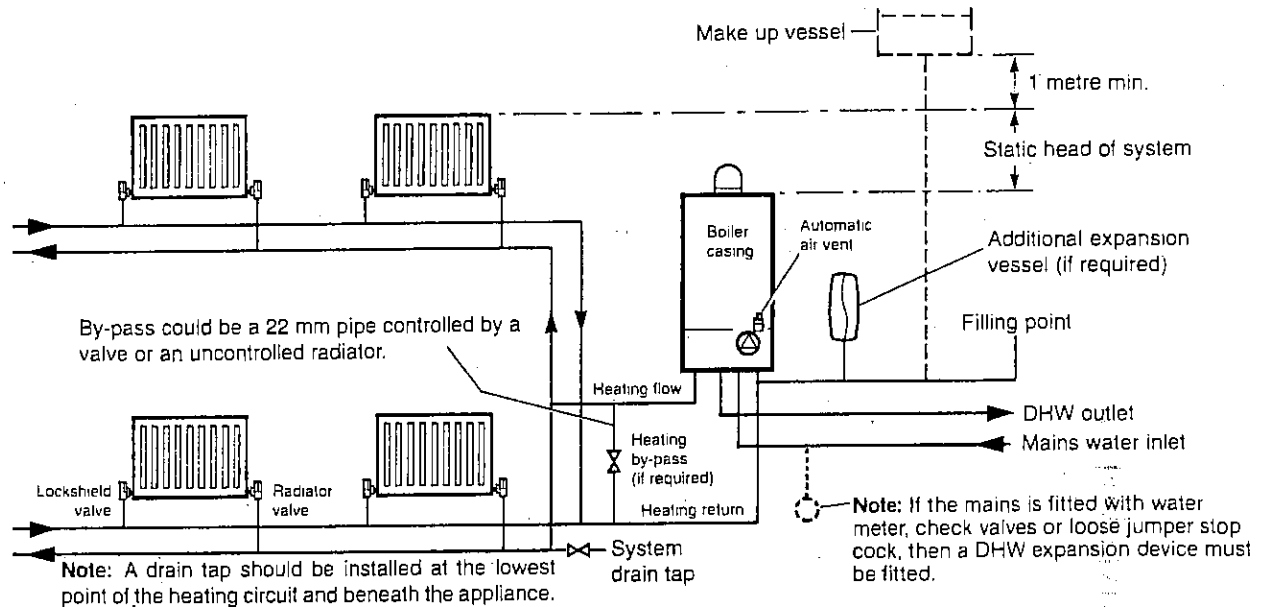
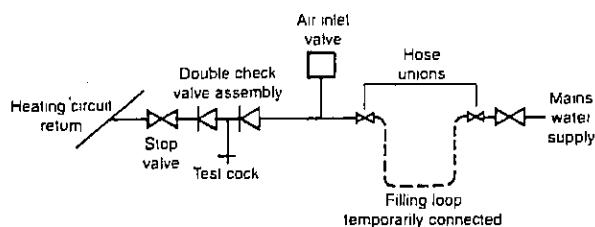
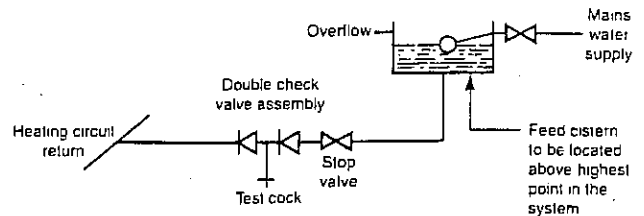

Fig. 5
Fig. 6
Fig. 7
3.7 CENTRAL HEATING SYSTEM - Fig. 5
3.8 FILLING THE CENTRAL HEATING SYSTEM - Figs. 6, 7
The system design pressure (cold) should be set to 1.5 bar. This pressure is equivalent to the maximum static head (see Fig. 5) in bar + 0.3 (1 bar = 10.2 metres of water).
Provision should be made to replace water lost from the system. This can be by manual or automatic means, as shown in Figs. 6 and 7. The position for connecting an automatic make-up vessel is indicated in Fig. 5. A double check valve assembly must be used, as shown in Fig. 7.
Filling of the system must be carried out in a manner approved by the local Water Undertaking. Where allowed, the system may be filled via a temporary connection as shown in Fig. 6. After filling, always disconnect the flexible hose of the filling loop.